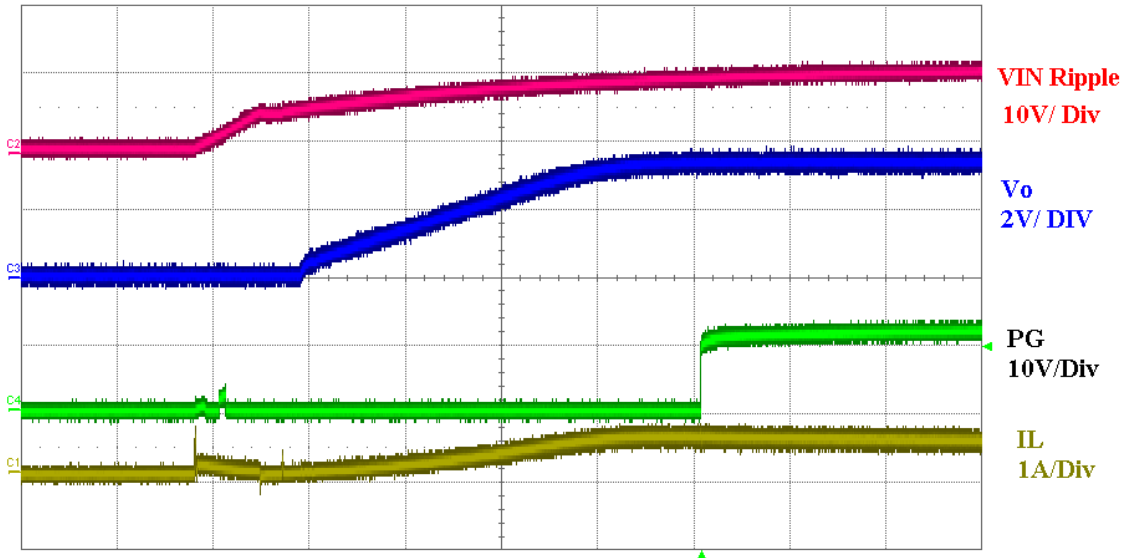

Figure 2: NCP3170B Startup and Regulation with PG Indication
7. Observe Soft and PG signal proper behavior as shown in Figure 2